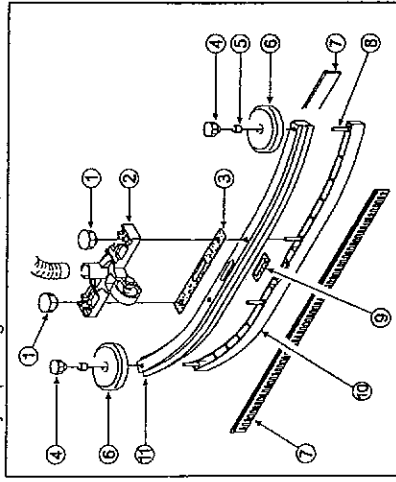

Fig. 16
- pull out the squeegee small opening (fig. 16, ref. 2) from the removed squeegee (fig. 16, ref. 1) by unscrewing completely the two knobs (fig. 16, ref. 1);
- unscrew the two knobs (fig. 16, ref. 4) at the ends of the removed squeegee and remove the wheels (fig. 16, ref. 6);
- turn over the squeegee and push down on the protruding threaded pins to let the squeegee come out (fig. 16, ref. 11);
- depending on one's needs, reverse the blades or remove the worn ones (fig. 16, ref. 7), replacing them with new blades;
- insert the protruding teeth of the blades in the holes of the piece to be embedded (fig. 16, ref. 11);
- replace the piece (fig. 16, ref. 10), wheels (fig. 16, ref. 6), small opening (fig. 16, ref. 2) and knobs (fig. 16, ref. 1 e ref. 4);
- finally, tighten the two knobs (fig. 16, ref. 1) and connect the sleeve of the suction tube (fig. 7, ref. 4) to the squeegee.